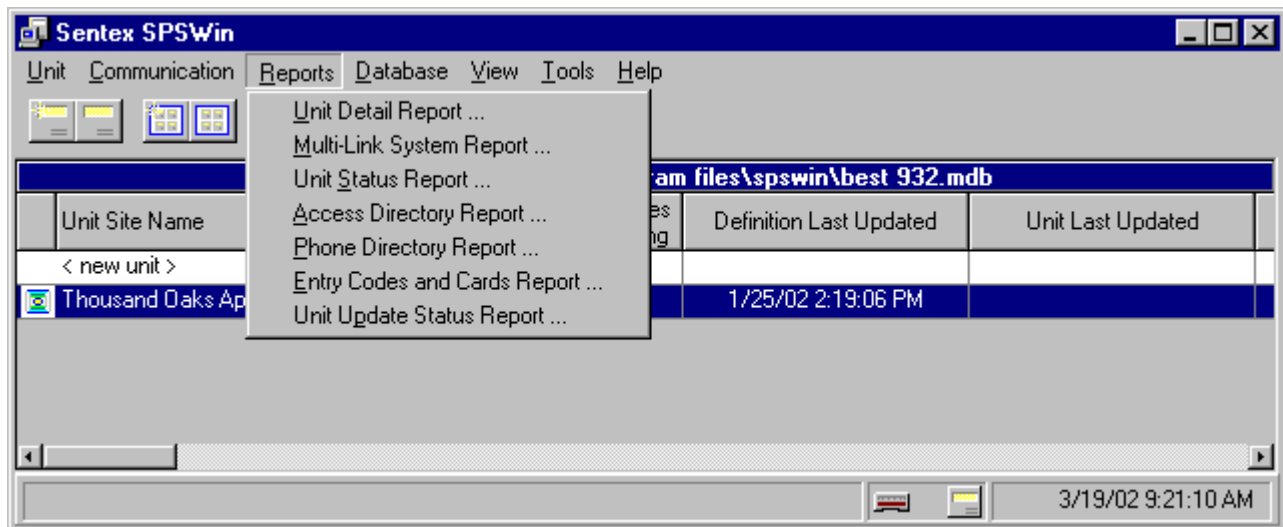

Figure 60: SPSWin Main Window Reports Drop-Down Menu
- 1 Select Reports from the toolbar, then select the desired report from the drop-down menu (see Figure 60). The Report Selection window will be displayed.